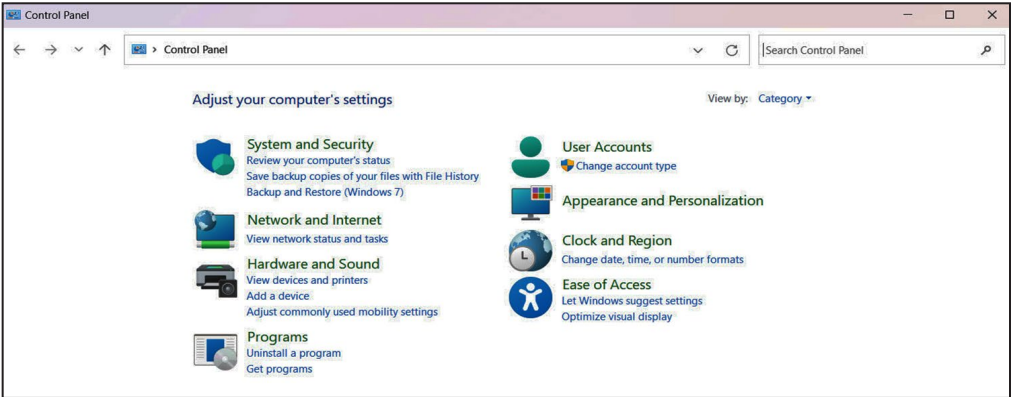

Figure 27. The Control Panel dialog box.
- STEP 3.** From the Control Panel dialog box, select the **Programs** option. See Figure 27.